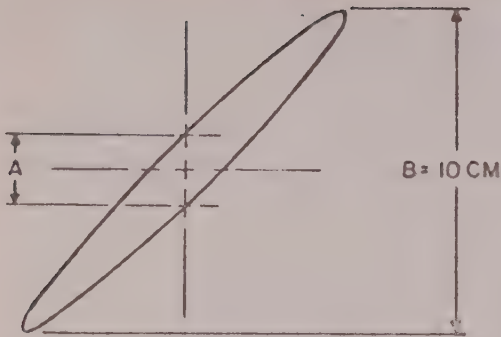

Figure 2-12. Phase Shift Measurement
2. Center the trace horizontally and adjust the Y controls for 10 centimeters of vertical deflection. The pattern obtained should be similar to Figure 2-12.
Note: To obtain full scale vertical deflection of 10 centimeters, it may be necessary to temporarily reduce the horizontal amplitude of the display. To accomplish this, set the X VOLTS/CM switch one step counterclockwise from its initial setting. Adjust the display for 10 centimeters of vertical deflection. Reset X VOLTS/CM switch to its original setting, recenter the display, and read dimension A in Figure 2-12.